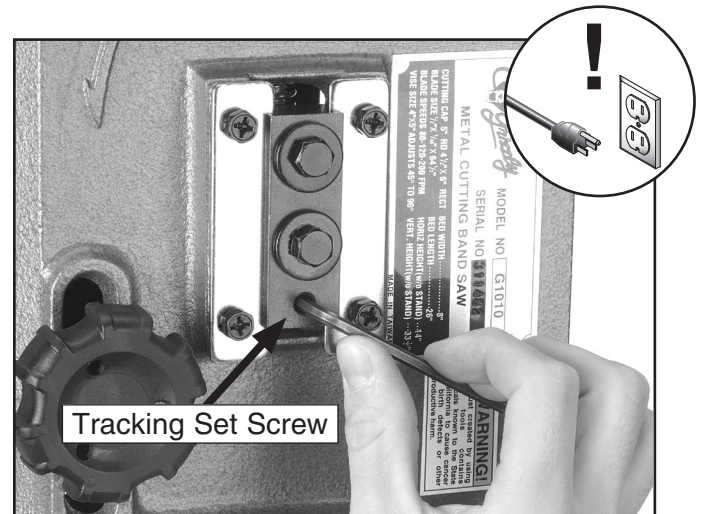

Figure 50. Adjusting tracking set screw.
6. Adjust the set screw with a 4mm hex wrench shown in **Figure 50**, then tighten the hex bolt loosened in **Step 4**.